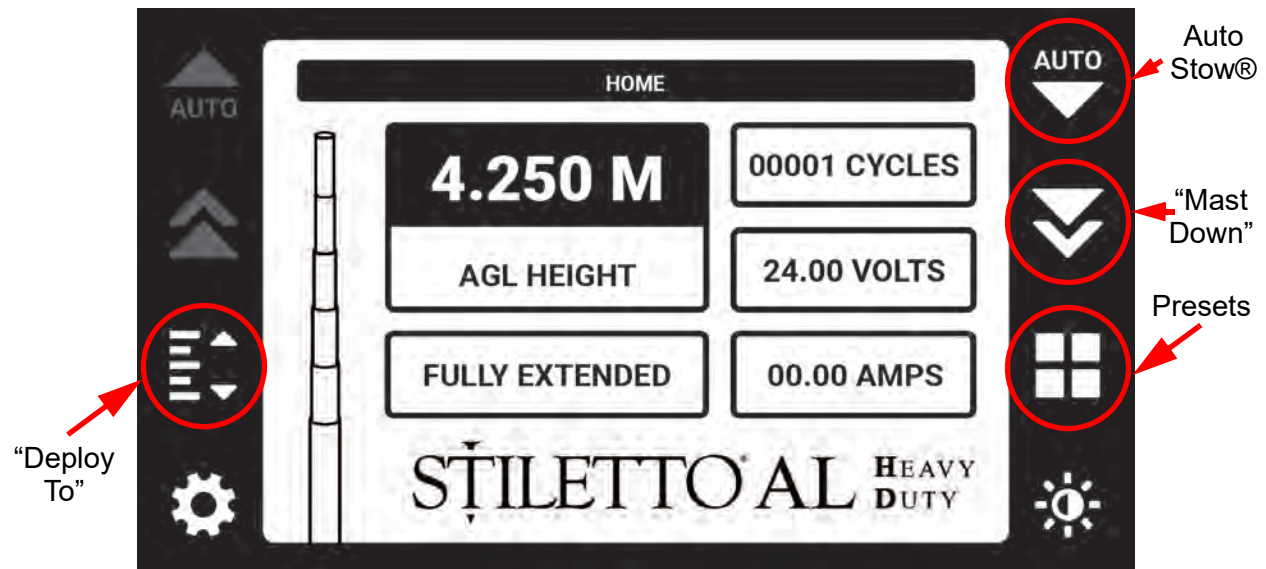
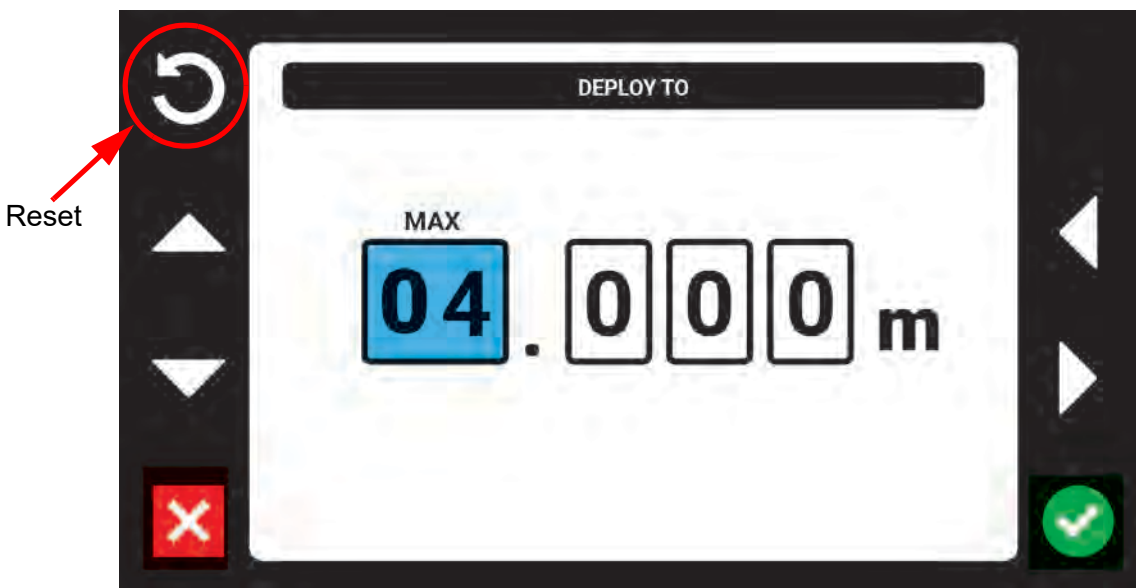
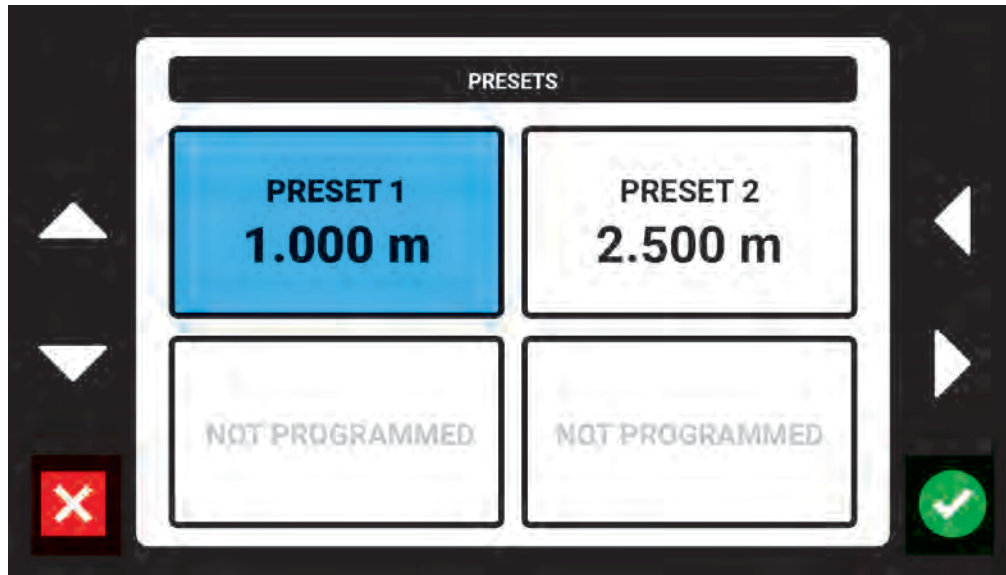

Figure 6-13 Home Screen - Mast is Fully Extended
Figure 6-16 Deploy To - Enter Height Screen
Figure 6-17 Select Preset Screen
All of the above methods of retraction can be accessed from the Home Screen (Figure 6-13).
1. To fully stow the mast, press the Auto Stow® button (Figure 6-13).
1. To retract the mast, press and hold the “Mast Down” button (Figure 6-13) until the mast reaches the desired height. Pushing the “Mast Down” button will cause the mast to lower until the “Mast Down” button is released. If the “Mast Down” button is not released, the mast will fully stow.
1. To retract the mast, press the “Deploy To” button (Figure 6-13). The Deploy To - Enter Height Screen will appear (Figure 6-16).
1. To retract the mast, press the Presets button (Figure 6-13). The Select Preset Screen will appear (Figure 6-17).